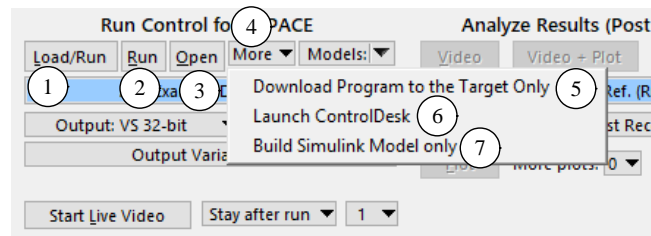

Figure 33. Run control buttons when linked to a dataset from the dSPACE library.
When you are linked to a dataset in the **Models: Transfer to dSPACE Target** library, several controls are shown for communicating with the dSPACE target (Figure 33).
- ① Launch dSPACE ControlDesk.
- ② Launch Live Animation (depending on settings), download the compiled Simulink model, download the existing expanded Parsfile, and start the simulation. (This is almost the same as the **Load/Run** button (see Figure 33) except it does not recreate the Parsfile.)
- ③ Download the current Parsfile to the dSPACE target board.
- ④ Run the simulation as currently set up on the dSPACE target board.
- ⑤ Download the current Parsfile to the dSPACE target board and start the run. (This is the same as clicking the buttons ③ and ④ in sequence.)
- ⑥ Pause the simulation.
- ⑦ Stop the simulation.